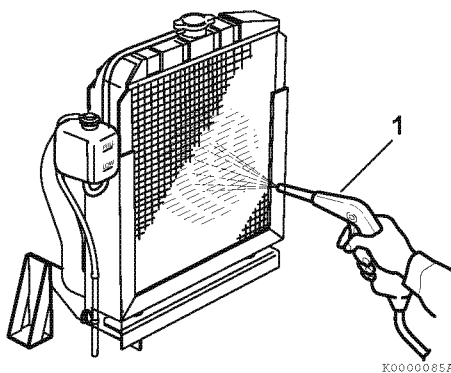

Figure 5-10
Note that a typical radiator is shown in **Figure 5-10** for illustrative purposes only.
- Blow off dirt and dust from fins and radiator with 28 PSI (0.19 MPa; 2 kgf/cm²) or less of compressed air (**Figure 5-10, (1)**). Be careful not to damage the fins with the compressed air.